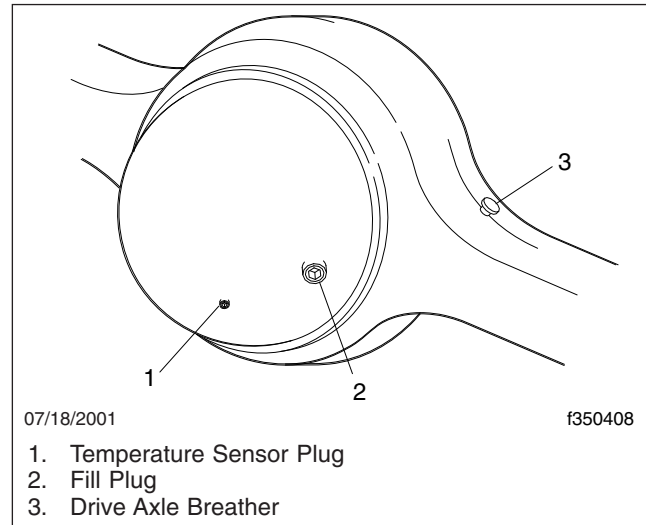

Fig. 8, Drive Axle Housing
3. Clean the oil fill plug and the area surrounding it. Remove the fill plug. See **Fig. 8**.